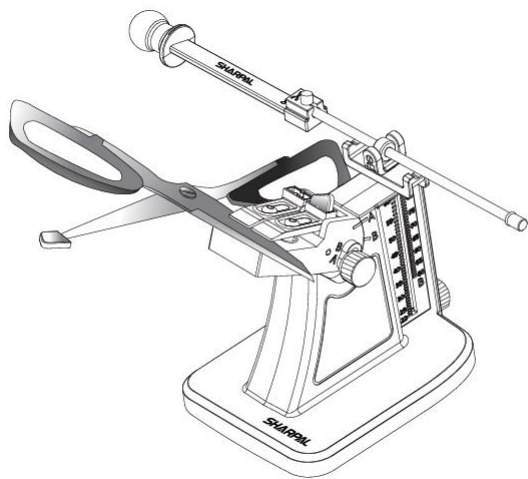

Fig. 1
5. When sharpening scissors, ensure the blade to be sharpened is securely clamped. Cover the other scissor tip with the protective cap to prevent potential injury (See Fig. 1).